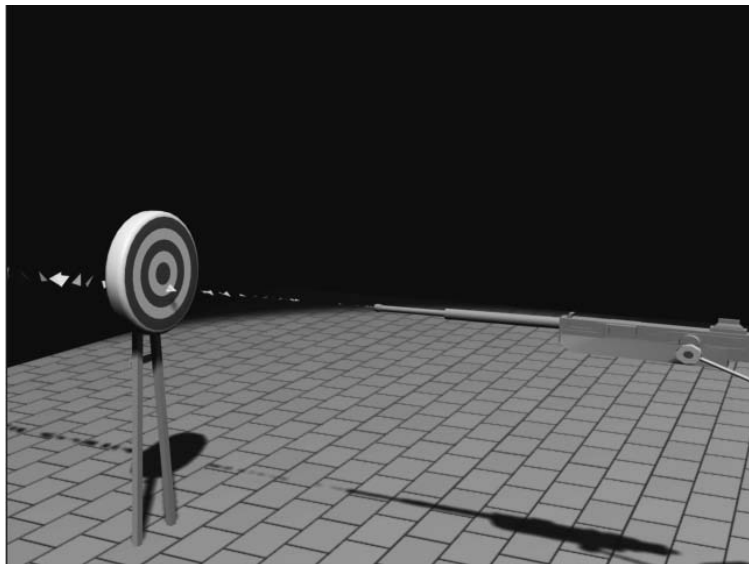

Figure 12.6
6. In the Particle Size section, change the Size value to 4. Drag the Time slider to approximately frame 80 and then render the Camera viewport. The scene should look similar to Figure 12.6.